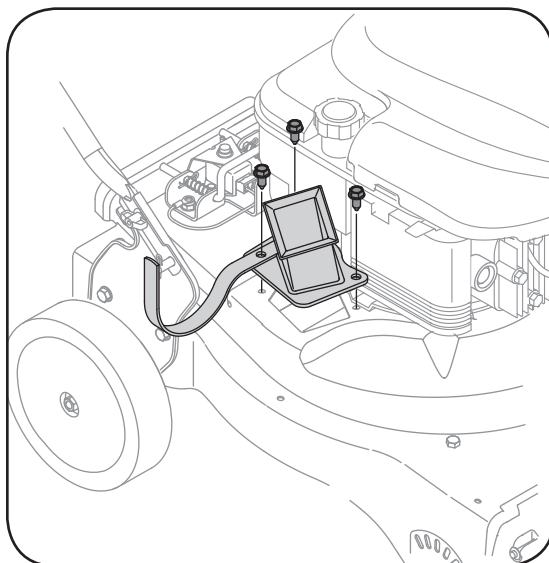

Figure 19
3. Remove the three hex cap screws holding the hose hanger bracket and chipper chute to the upper housing. See Figure 19.